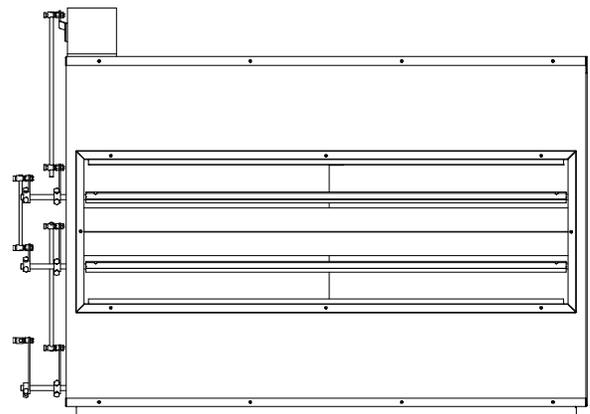

Fig. 11-Top View
1. Align actuator so that the actuator linkage arm will have enough clearance for full range of motion. Refer to Fig. 10-13. Align center line of the actuator as close to the centerline of DR4 as possible. See Fig. 11 and 12. Use at least 4 self-drilling screws to mount directly to top of unit.
2. Place linkage arm assembly (linkage arm and swivel nut arm) onto DR4 as shown in Fig. 11 and 12. Do not tighten to DR4 as adjustments need to be made.
3. Place linkage rod between actuator arm and linkage arm on DR4. See Fig. 11. Linkage rod may need to be cut to length. Ensure actuator arm and linkage arm are parallel.